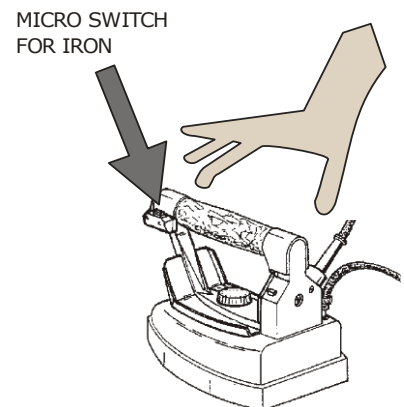

Fig. 4
4. Wait for the boiler lamp to switch off (fig. 1-7), the manometer should mark roughly 2,8 bar. At this point seize the iron by cork handle and press the micro-switch of the iron (fig. 4) 4 or 5 times, so that steam comes out. It is important to make sure that the steam is saturated (by pressing the micro-switch with the iron pointed towards the floor). It is also possible to adjust the steam flux by turning the regulation knob (fig. 1). Now everything is ready for ironing. During ironing operation, the boiler lamp switches on and off signalling that the machine is working properly (fig. 1-7).
1. Run the iron on garments, pressing the micro-switch of the iron at intervals (fig. 4) so that steam comes out.
6. loss of water from the iron or iron overheating (fig. 4);
7. washing or cleaning the iron using water (fig. 4);